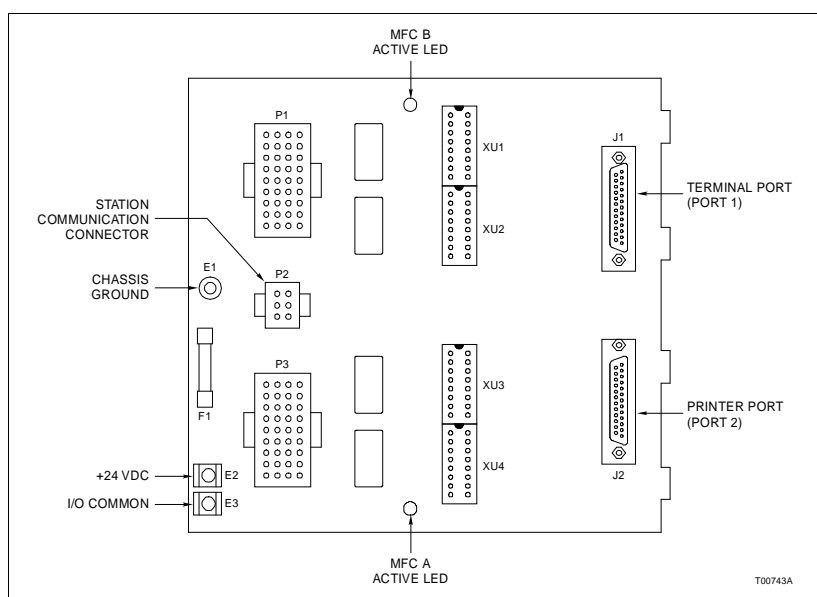
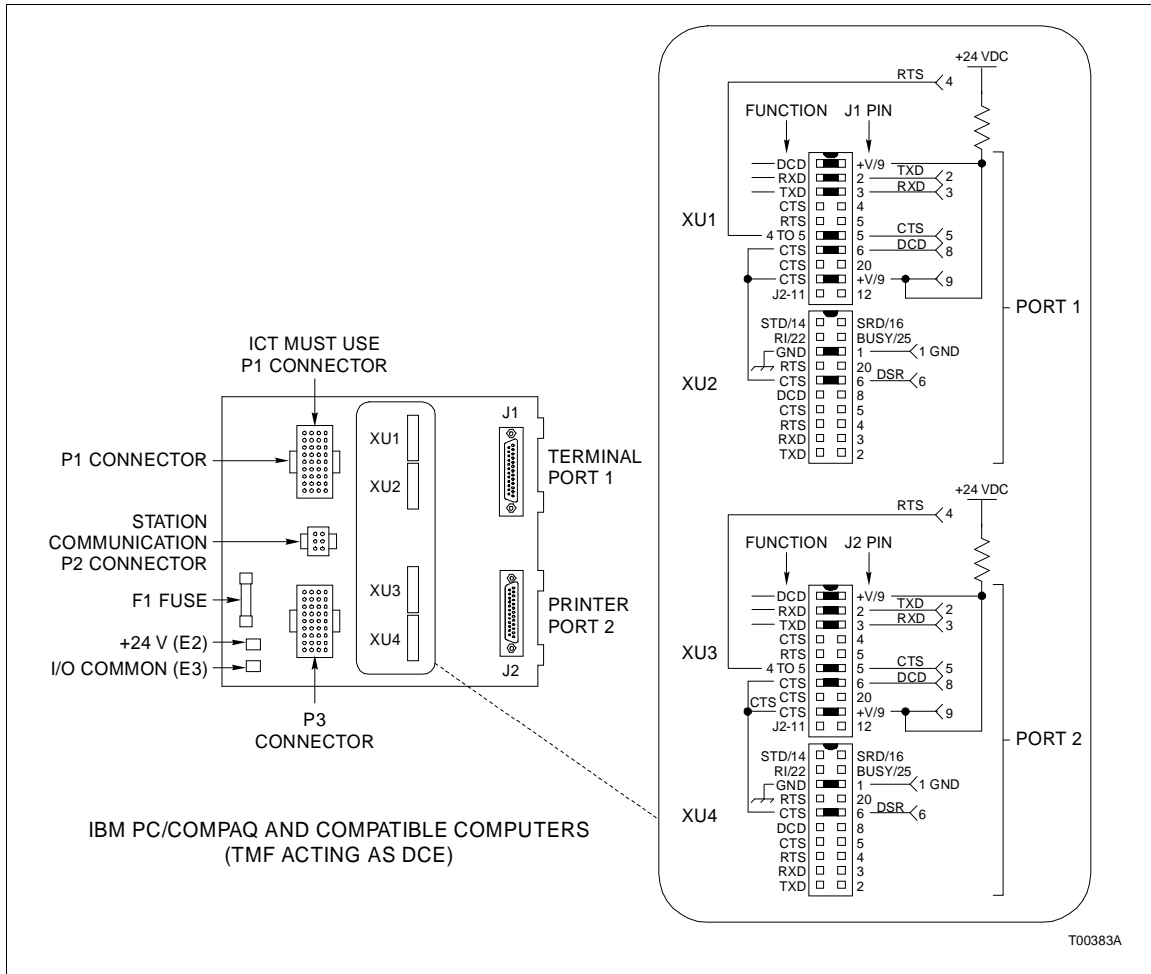
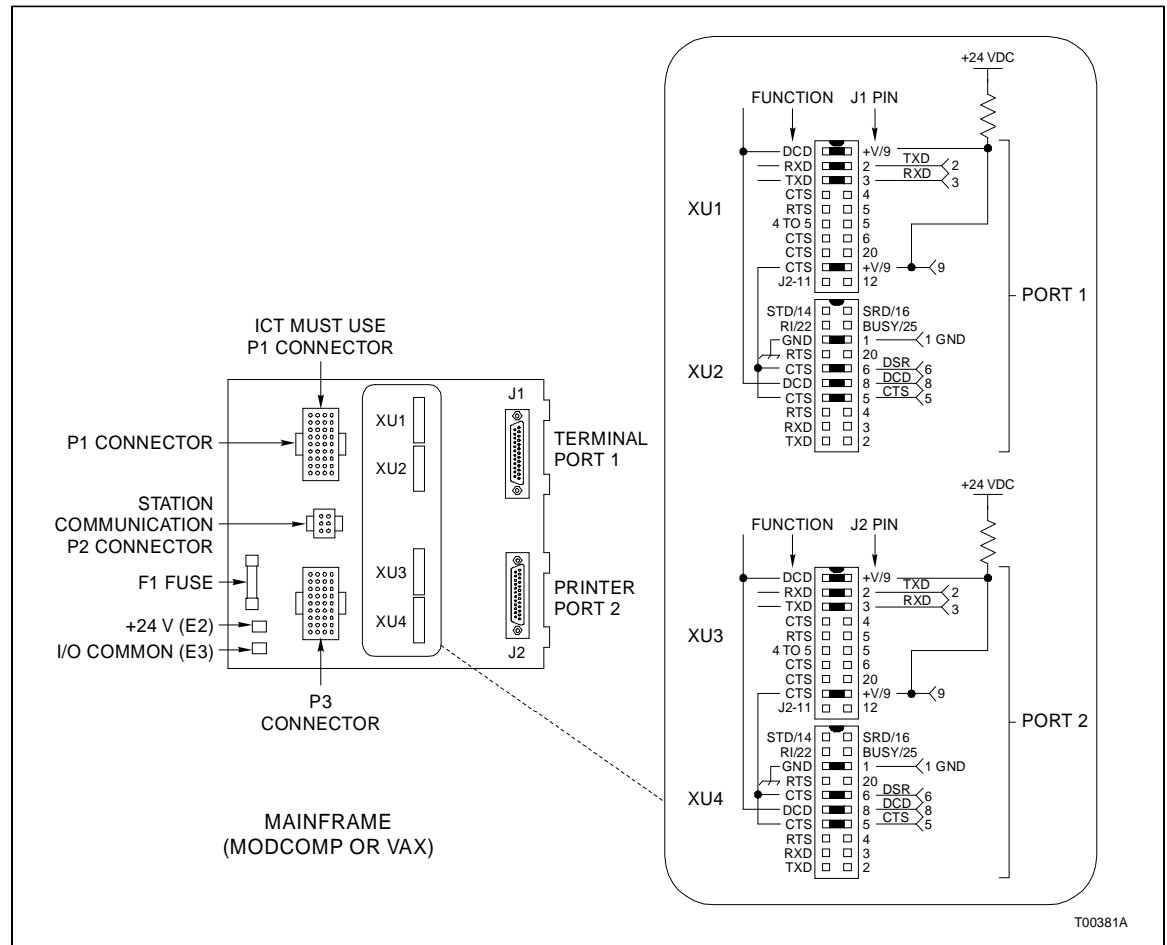
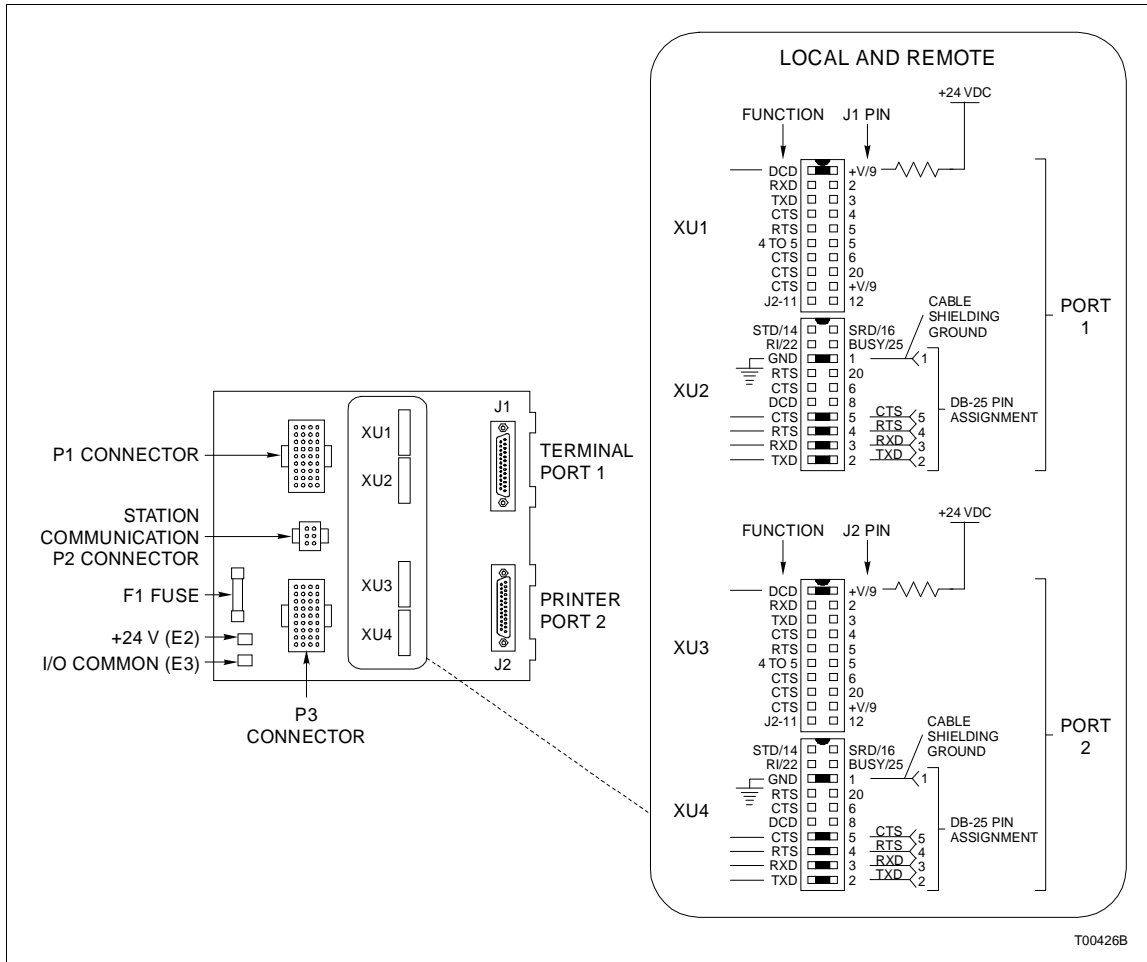

Figure 2-1. TMF Unit Connector Assignments and Dipshunt Locations
Figure 2-2. Dipshunt Configuration for Direct Connection to Host Computer (IMMFC03 and ICT Modules)
Figure 2-5. Dipshunt Configuration for Direct Connection to Mainframe Computer (ICT Module)
Figure 2-6. Dipshunt Configuration for PPT Module Acting as DTE (Requires Modem or Other DCE)
Configure dipshunts XU1/XU2 and XU3/XU4 so that their respective ports operate as DTE or DCE devices. Port two can be used to interface a diagnostic terminal. Figure 2-1 shows the connector assignments and dipshunt location on the termination unit. Install the appropriately cut dipshunts using Figures 2-2 through 2-4.
**NOTE:** The TMF dipshunt settings shown in Figures 2-2 through 2-4 apply to the IMMFC03 and INICT01 modules. Figure 2-5 applies only to the INICT01 and INPCT01 modules. Figures 2-6 through 2-7 show the dipshunt settings required when using the termination unit to terminate an INPPT01 module.
The INICT01 and INPCT01 modules can interface to a mainframe computer (MODCOMP or VAXstation™). To set up the termination unit to terminate a mainframe, see Figure 2-5 and install the appropriate set of dipshunts (XU1/XU2 and XU3/XU4) as shown.
When the termination unit is used to terminate an INPPT01 module, use the dipshunt settings shown in Figures 2-6 through 2-8. To install the dipshunts:
1. If connecting a local plant loop (DTE) to a remote plant loop (DTE) through a modem or microwave link (DCE), use the dipshunt settings shown in Figure 2-6. Set the IMF termination
Bailey ships a 0.25 amp, 250 volt fuse (Bailey part number 194776A12500) with each termination unit. If this fuse is missing, install a fuse in the fuse holder (F1). Figure 2-1 shows the location of F1 on the termination unit circuit board.
3. Connect the chassis ground by installing a number ten self-tapping screw and external star washer in the location (E1) shown in Figure 2-1.
2. Insert the other end of the cable into +P1 or P3 of the termination unit. See Figure 2-1 for the location of P1 and P3 on the TMF circuit board.
There is one faston (E2) that connects to +24 VDC and one faston (E3) that connects to I/O common. Figure 2-1 shows their locations on the TMF circuit board.